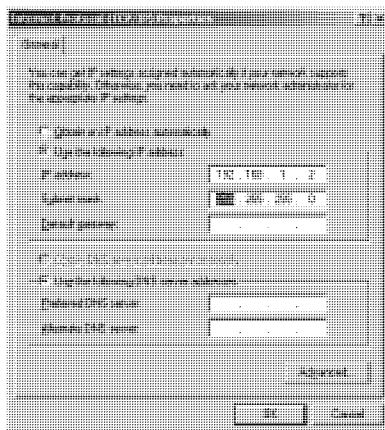

Figure 9: Internet Protocol (TCP/IP) Properties Window
6. Select **Use the following IP Address**, and fill in the details as shown in Figure 9.